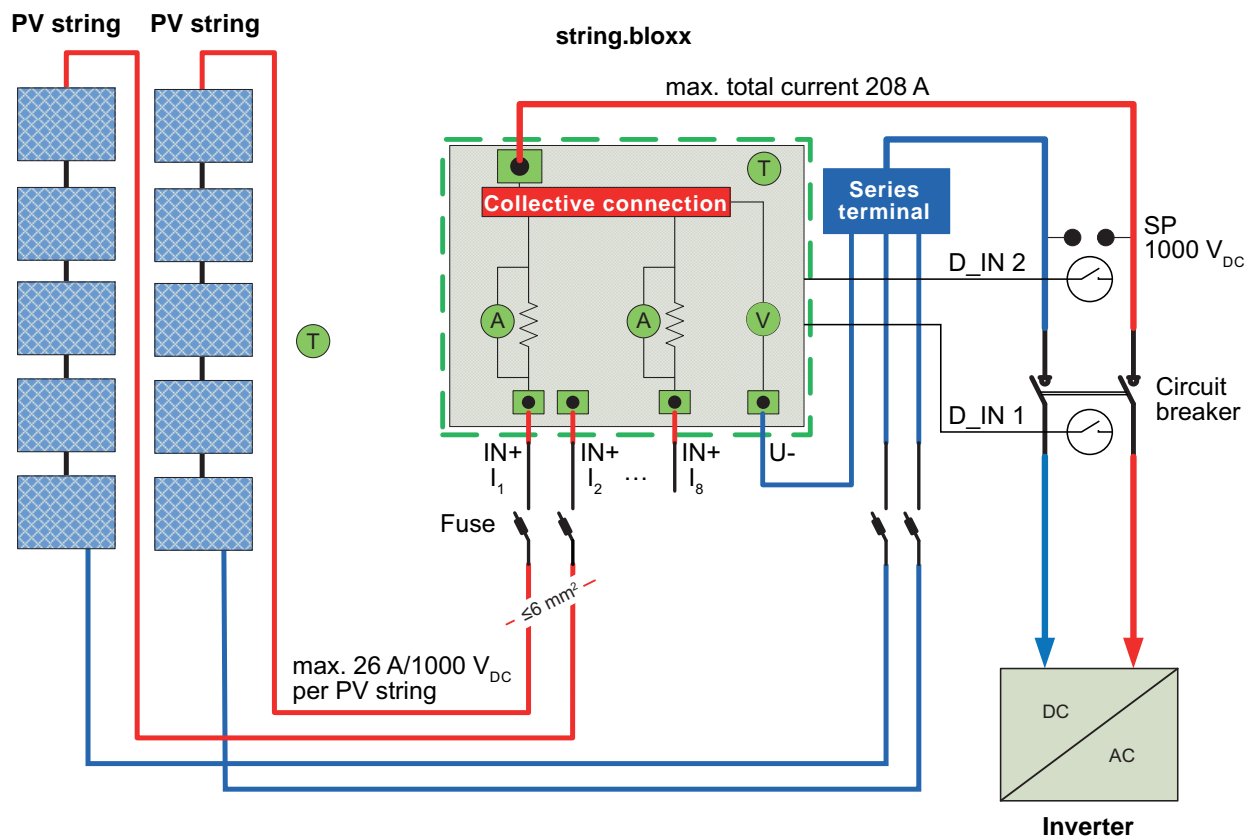

Fig. 3-1 Typical wiring; OVP = overvoltage protection.
A typical example for the wiring of the string.bloxx module 208 within a solar power system is shown in Fig. 3-1.
8. Connect the cable for the measurement of the total voltage to U- ("terminal block" in Fig. 3-1).